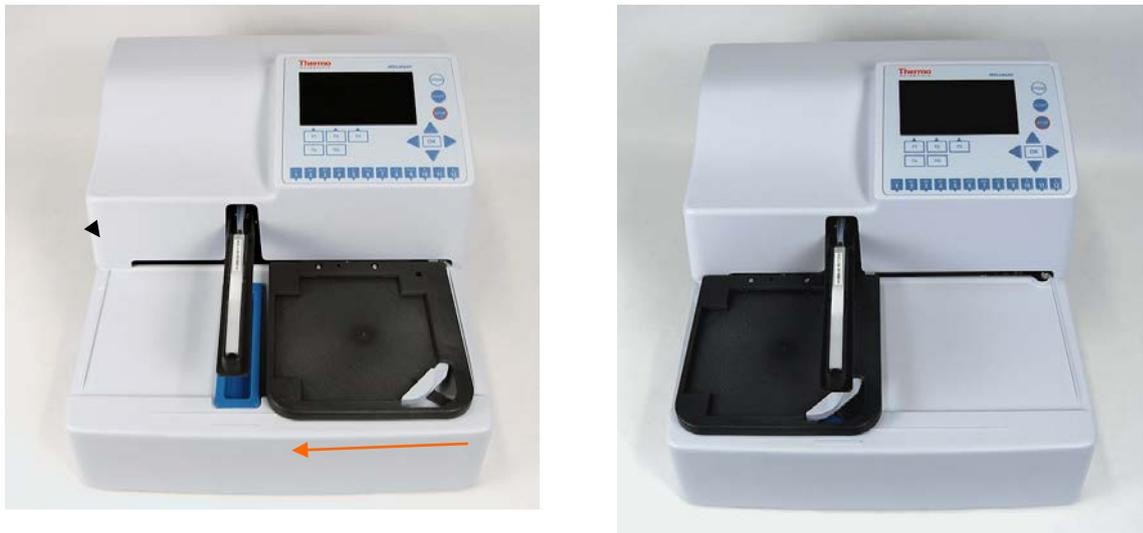

Figure 37. Cleaning the plate carrier and the surrounding area
3. If spillages have occurred, move the plate carrier by pushing it to the left (Figure 37). This makes it easier for you to clean the area under the plate carrier.